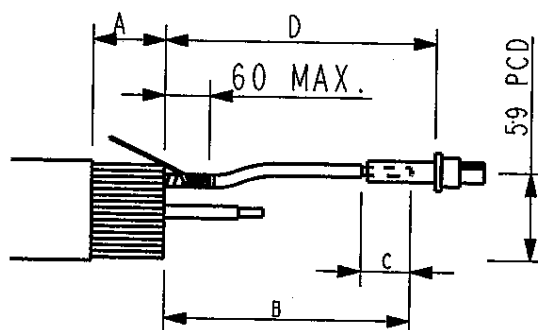

Fig 2
- 1b) Straighten the cable cores out of lay and reform to position conductors on 59mm P.C.D. as shown in Fig.2
- 3e) Check dimension 'D' shown in Figure 2. Line up one of the flats on contact tubes **(8)** with location flats on insulator **(5)** mark tube position on conductor insulation.